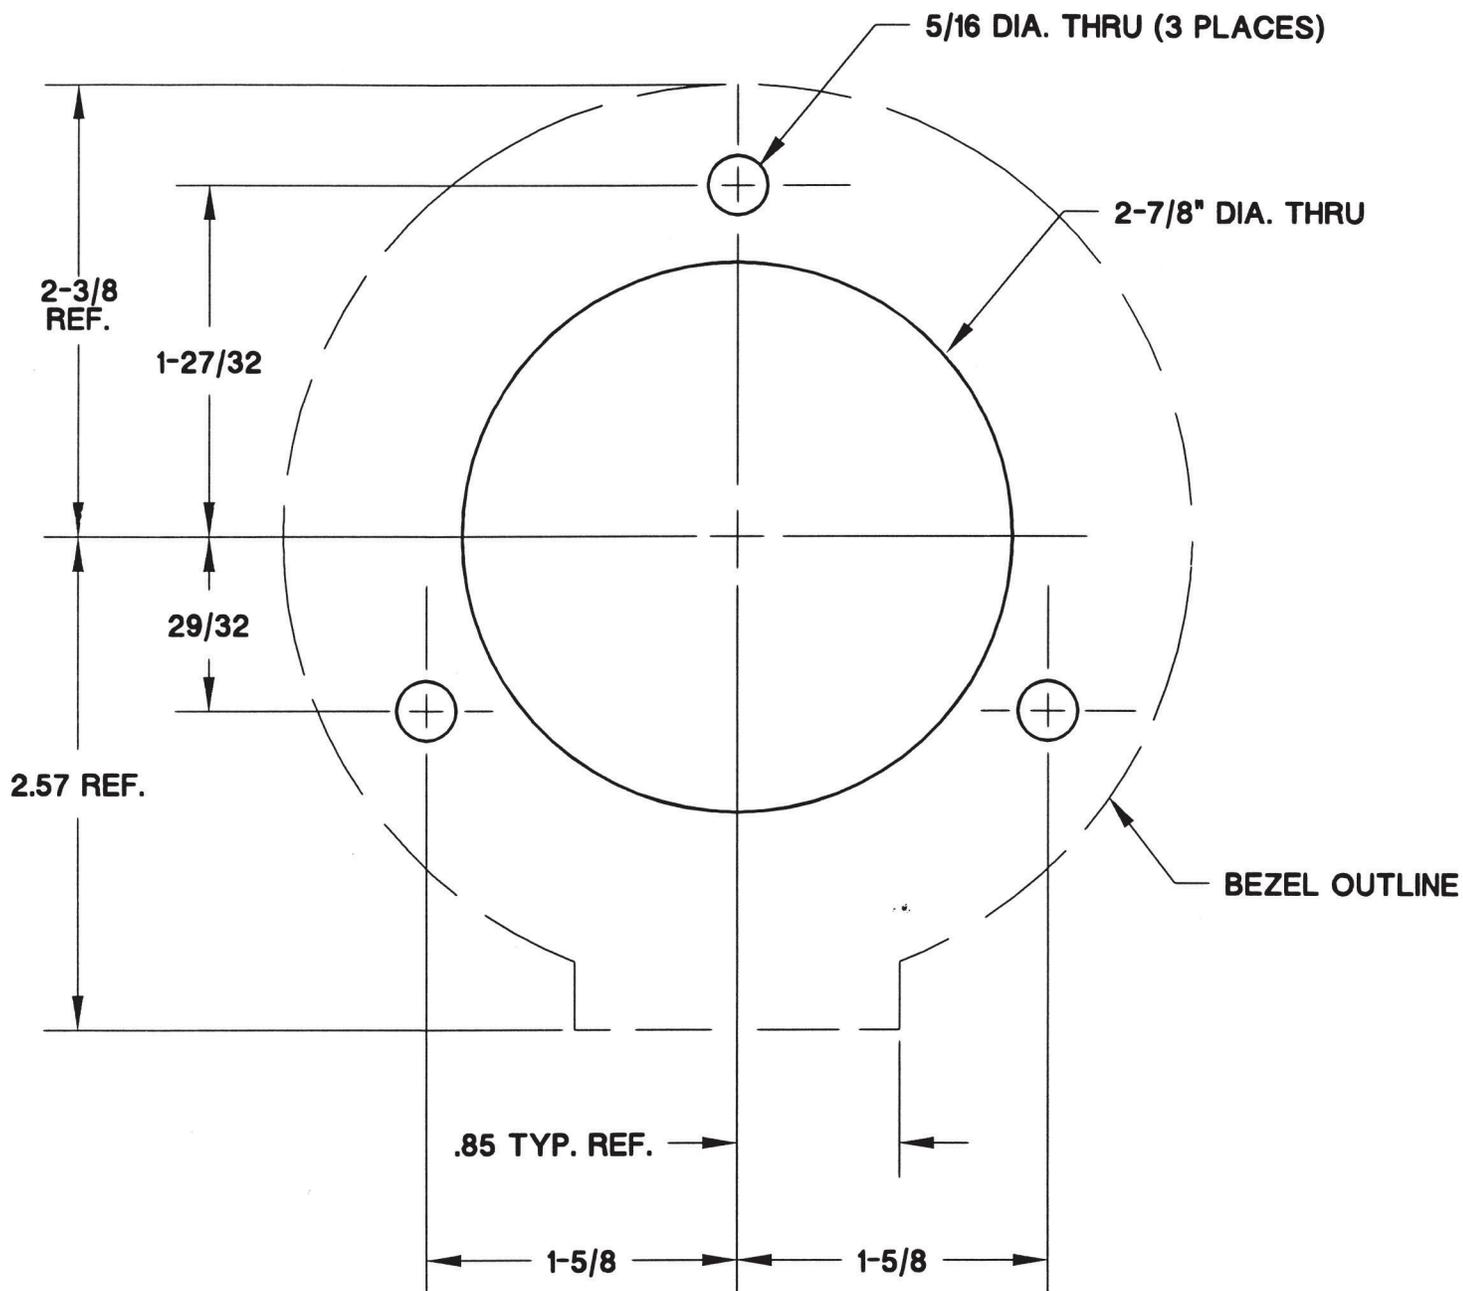

Figure 4.
**STEP 2.** Position the template (Figure 4) on the console or dashboard at the location previously marked, and drill three holes 5/16" diameter and one hole 2-7/8" diameter.